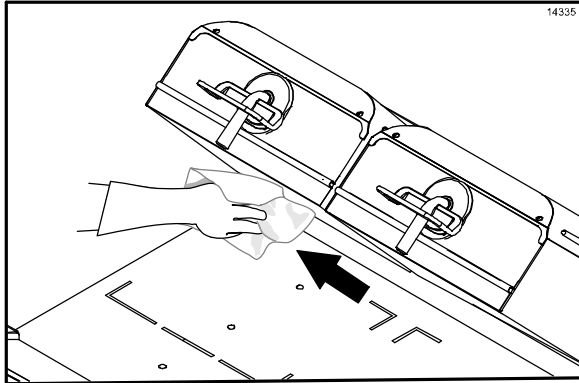

Figure 57
30. Rinse all areas of the platen surfaces with a clean, sanitizer-soaked grill cloth, starting from the right platen to the left platen. Lower and raise the platens as needed to gain access to the sides of the platens. (See Figure 57.)